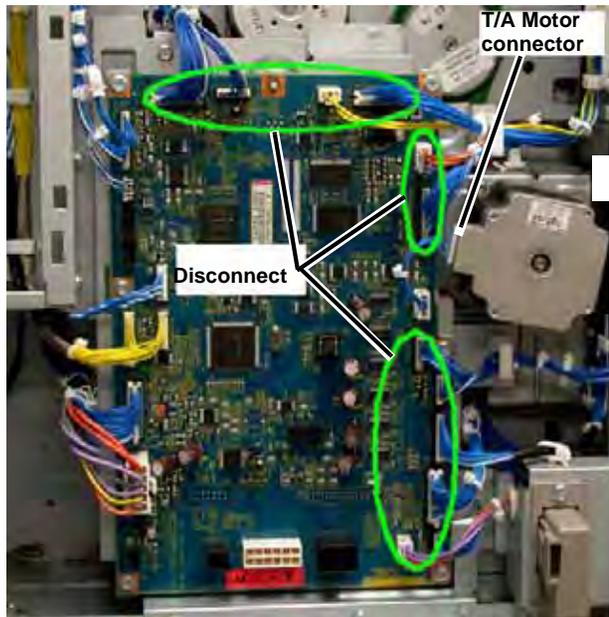

Figure 1 P/Js
3. Disconnect the following connectors (Figure 1).